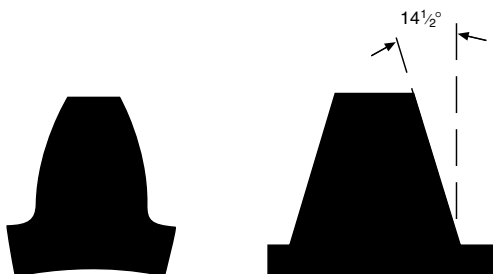

Figure 2.4A,
- The **14 1/2° pressure angle** is the original standard tooth shape. It is still widely used today. (See Figure 2.4A)